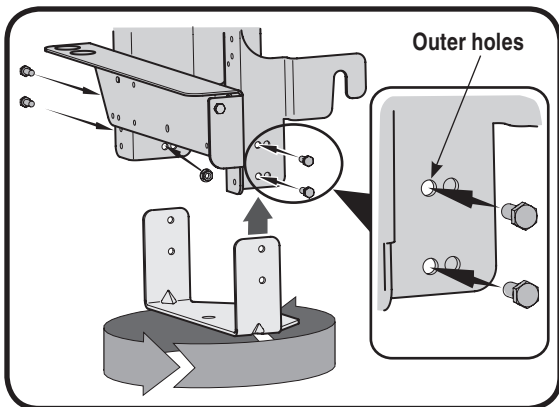

Figure 10
2. Rotate the hitch plate 180° from its original position. Re-insert the four bolts through mounting bracket and hitch plate frame and secure with nuts removed earlier. Use the outer holes (furthest from the mounting hooks) on the mounting bracket. See Figure 10.